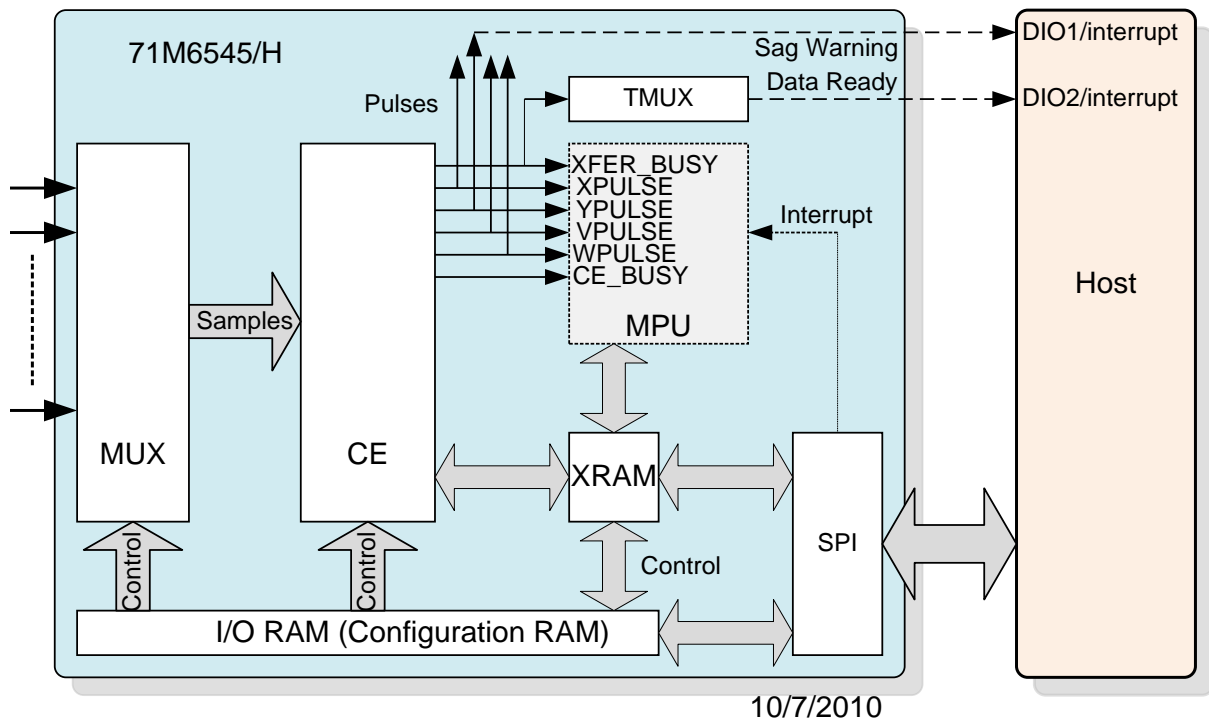

Figure 22: Data Flow
The data flow between the Compute Engine (CE) and the host is shown in Figure 22. In a typical application, the 32-bit CE sequentially processes the samples from the voltage inputs on pins IADC0-IADC1, VADC8 (VA), IADC2-IADC3, etc., performing calculations to measure active power (Wh), reactive power (VARh), A2h, and V2h for four-quadrant metering. These measurements are then accessed by the host via the SPI interface, processed further and stored and/or displayed. For example, to obtain the RMS current value in phase A, the host reads the *I0SQSUM\_X* register of the CE, scales it with VMAX, IMAX, and the LSB, as given in the CE Interface description (see 5.4 CE Interface Description on page 100), and then performs a square-root operation. Similarly, momentary real power and reactive power available via the *WSUM\_X* and *VARSUM\_X* registers only have to be scaled by the host, while the apparent power has to be post-processed as follows:
Figure 22 illustrates the CE-to-host data flow.